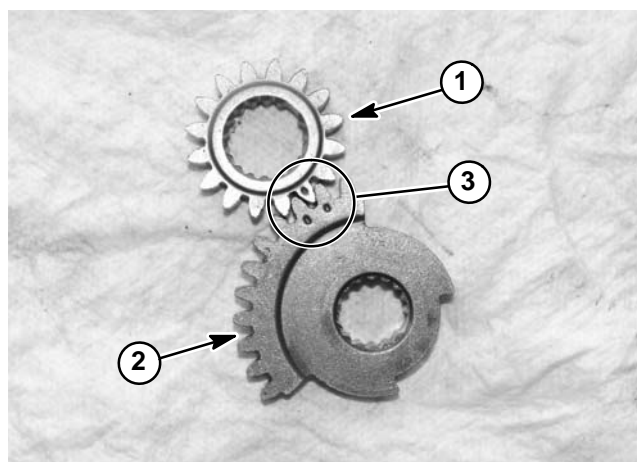

Figure 68
B. Noting location of missing tooth, slide sector gear (Fig. 55 item 30) onto lower end of shift shaft. Lower shaft with gear into rear case and align the identification marks on the two (2) sector gears (Fig. 68).